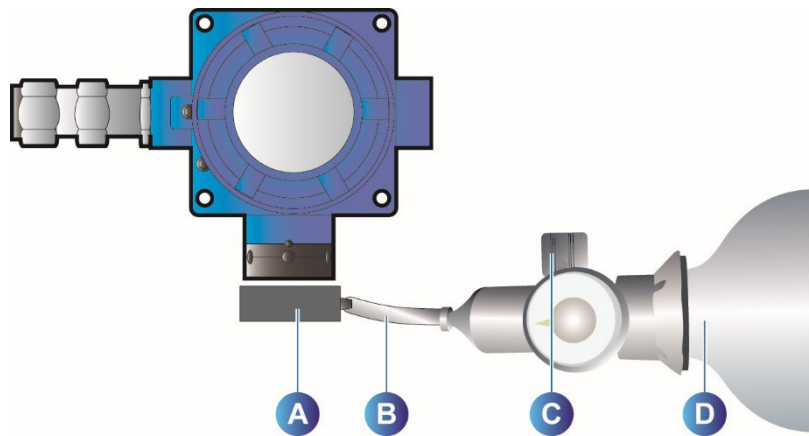

Figure 12 : Zeroing and Sensivity (OLC 100)
2. Place the calibration cup onto the detector head (Figure 12, **Erreur ! Source du renvoi introuvable.**"A").